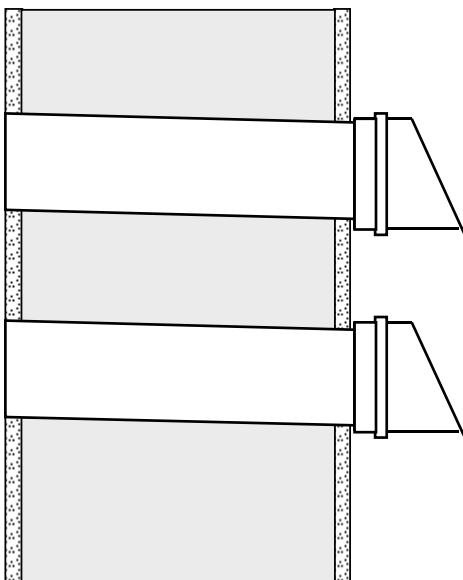

Figure 2
- 5** Push the external wall cover M-WRG-ESR onto the plastic pipes [Figure 2]. The drip edge must point downwards.